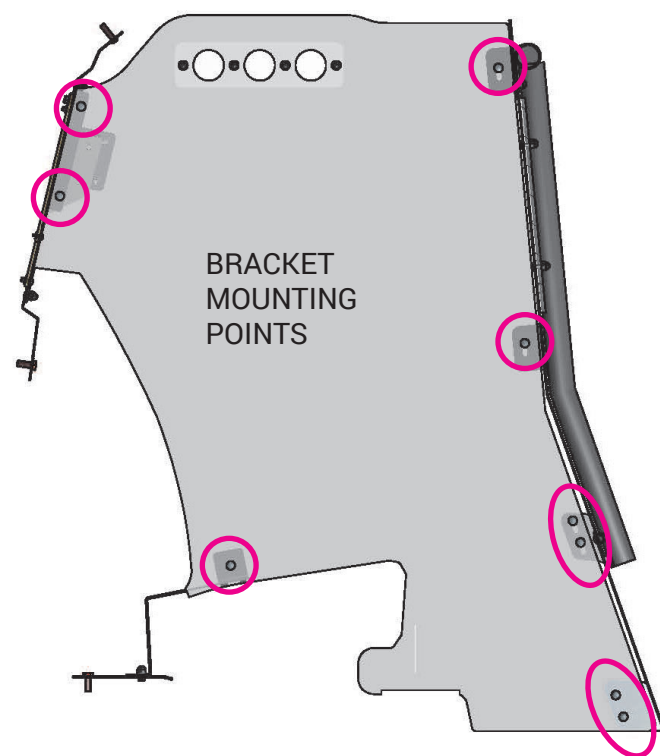

Fig. 15
- H. Hold the divider securely and mark hole locations at the bracket mounting points. Drill 5/16" thru holes and insert (3X82) screws and (3X16Z) whiz nuts. Tighten all divider bolts to secure in position. (Fig. 15)